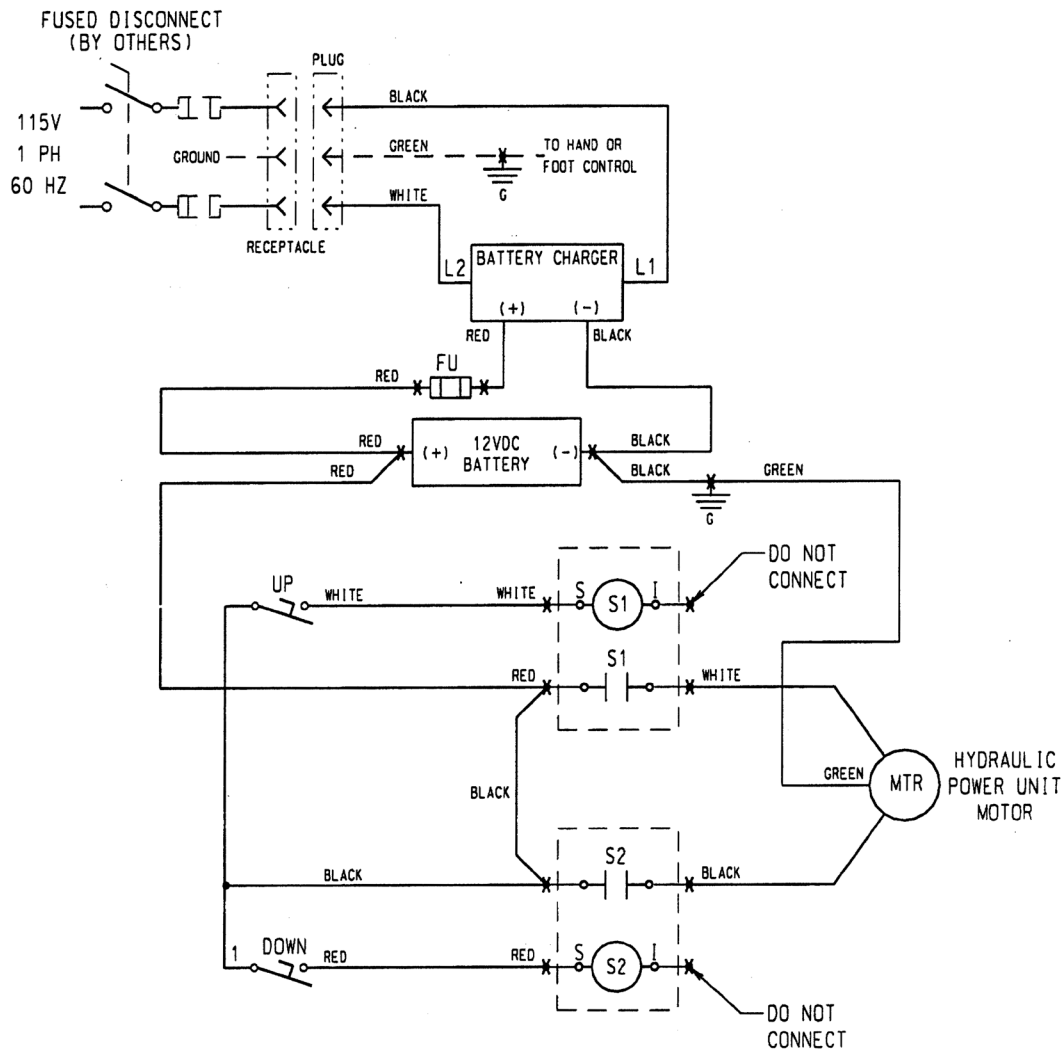

**FIGURE 1:
- b). Place the appropriate chock in position as shown in Figure 1.